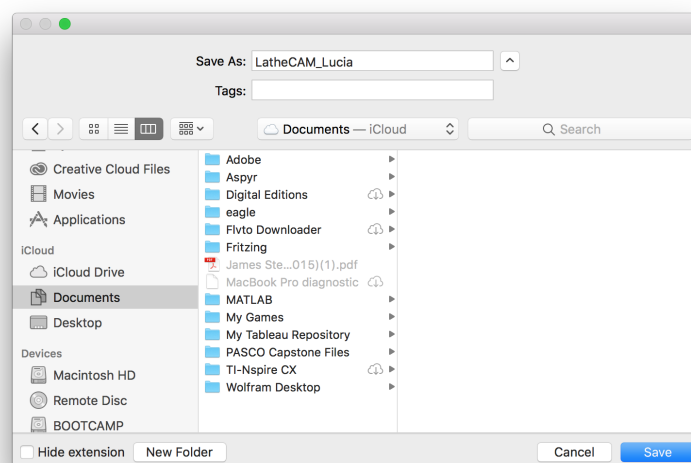

FIGURE 2.3: SAVING THE FILE TO THE COMPUTER.
- In the window that pops up, choose a destination to save your file that you will remember, and if it did not happen automatically, type **LatheCAM_Surname** as the filename, Figure 2.3.